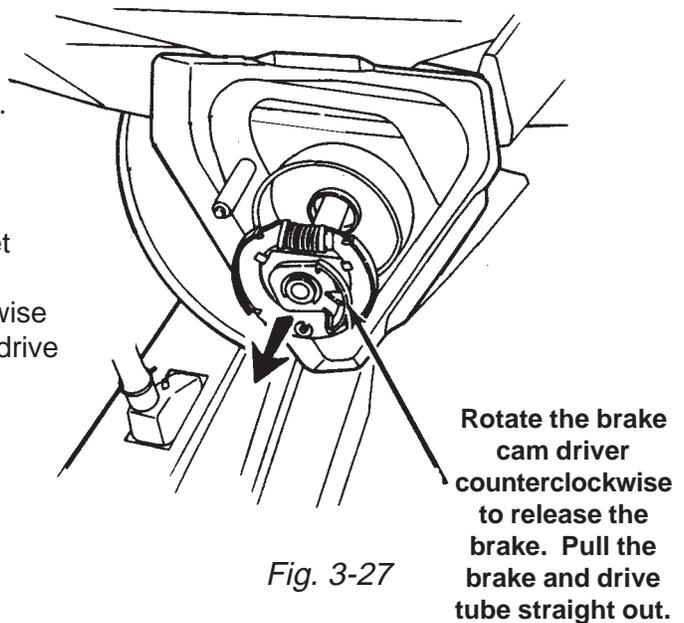

Fig. 3-27
6. Remove the three (3) bolts securing the gearcase assembly to the tub support.
8. Rotate the brake cam driver counterclockwise to release the brake. Pull the brake and drive tube straight out. (Fig. 3-27)